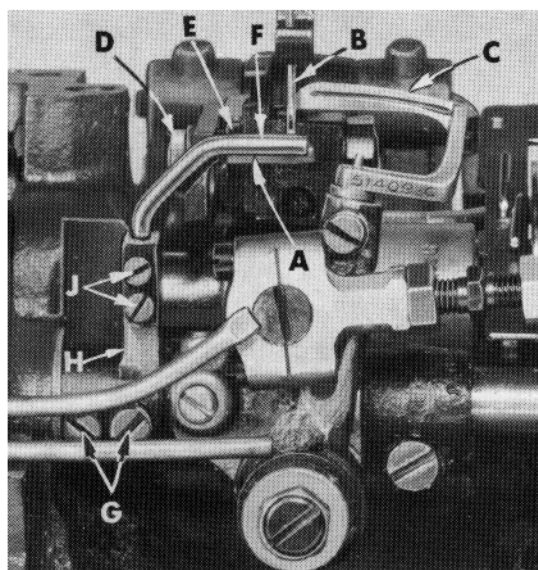

Fig. 11
Set the rear needle guard (A, Fig. 11) horizontally so that it barely contact the rear of the needle (B) when at its most forward point of travel. It should be set as low as possible, yet have its guarding surface in contact with the needle, until the point of the looper (C), moving to the left, is even with the needle. To move needle guard forward or backward, merely loosen screw (D), move needle guard as required and retighten screw (D). To raise or lower the needle guard, loosen screw (D) and turn screw (E) clockwise to lower or counterclockwise to raise. Retighten screw (D) after guard is properly set.
Set the front needle guard (F, Fig. 11) so that it barely contacts the needle (B) until the point of the looper (C), moving to the left, is just past the left side of the needle. The looper may brush, but not pick at the needle. The front needle guard should be set as low as possible to meet this condition yet not contact the rear needle guard or looper at any time. To move needle guard forward or rearward, loosen screws (G), rotate needle guard holder (H) as required and retighten screws (G). To raise, lower or rotate needle guard, loosen screws (J), reposition as necessary and retighten screws after guard is properly set.